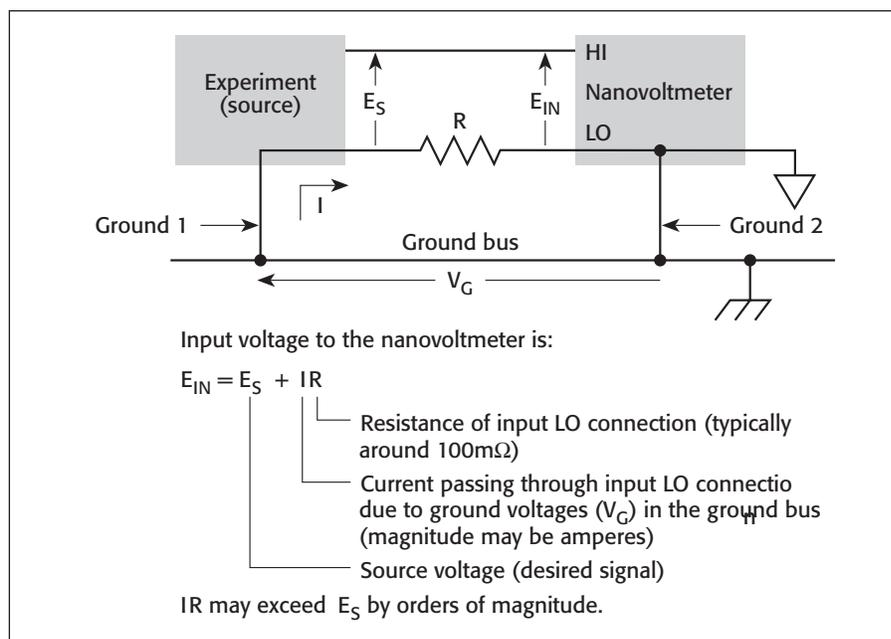

Figure 5. Multiple equipment grounds can form ground loops.
Ground Loops. Noise and error voltages also arise from ground loops. When the source and measuring instruments are both connected to a common ground bus, a loop is formed as shown in Figure 5. A voltage (V_G) between the source and instrument grounds will cause a current (I) to flow around the loop. This current will create an unwanted